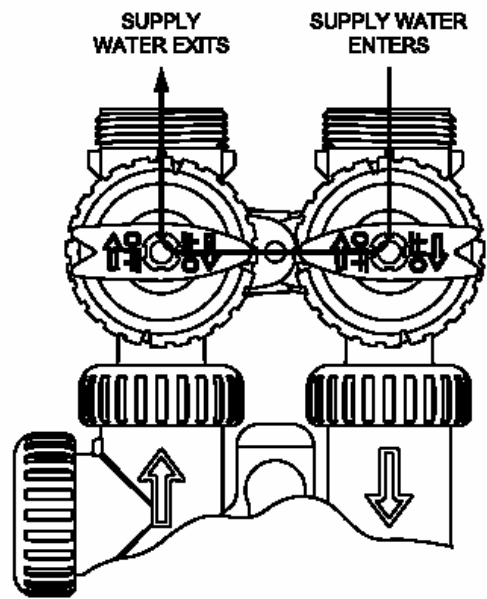

Figure 3
- 3. Diagnostic Position:** The inlet handle points in the direction of flow and the outlet handle points to the centre of bypass valve, system water pressure is allowed to the control valve and the plumbing system while not allowing water to exit from the control valve to the plumbing. (see Figure 3)